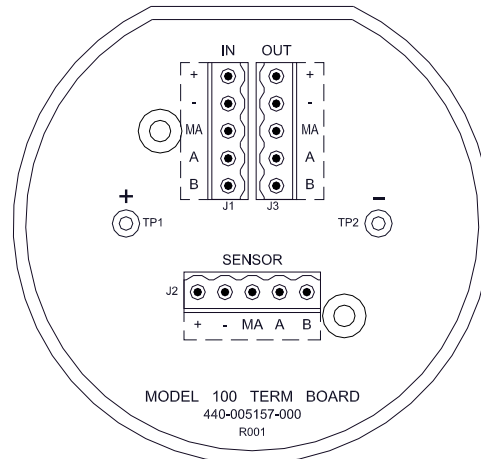
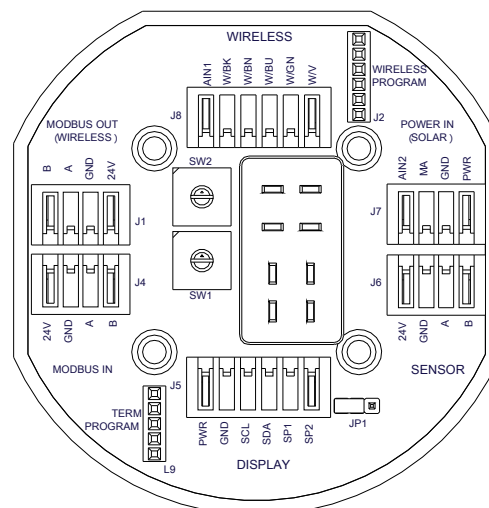

Figure 8. Standard Terminal Board
Figure 9 Model 100 Display Terminal Board
If the sensor is ordered with an explosion proof conduit/junction box, the sensor will come with the Model 100 Standard Terminal Board mounted in the J-Box (see Figure 8). This terminal board affords the user easy plug in connectors for use in wiring the unit during installation, and convenient test points for measuring the milliamp (mA) output.
If the unit is ordered with the optional display or a battery pack (as used in wireless configurations) the unit comes with the Model 100 Display Terminal Board mounted in the J-Box (See Figure 9).
- Observing correct polarity, terminate the 3-conductor power and 4-20mA field wiring ('+' '-' and 'mA') at the terminal board connector J1 (4-20mA Out) on the Standard Terminal Board shown in Figure 8, or J7 (PWR GND and MA) on the Display Terminal Board shown in Figure 9.